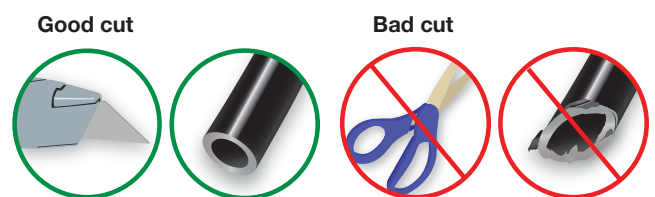

Fig. 15
2. Cut the air line in half. Make clean, square cuts with a razor blade or hose cutter (Fig. 15). Do not use scissors or wire cutters.